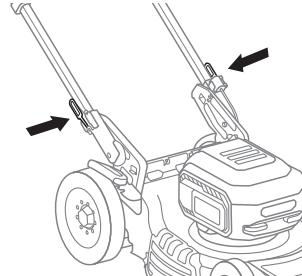

Fig.13B
4. Press and hold both folding handle levers to release the handle (Fig. 13B).